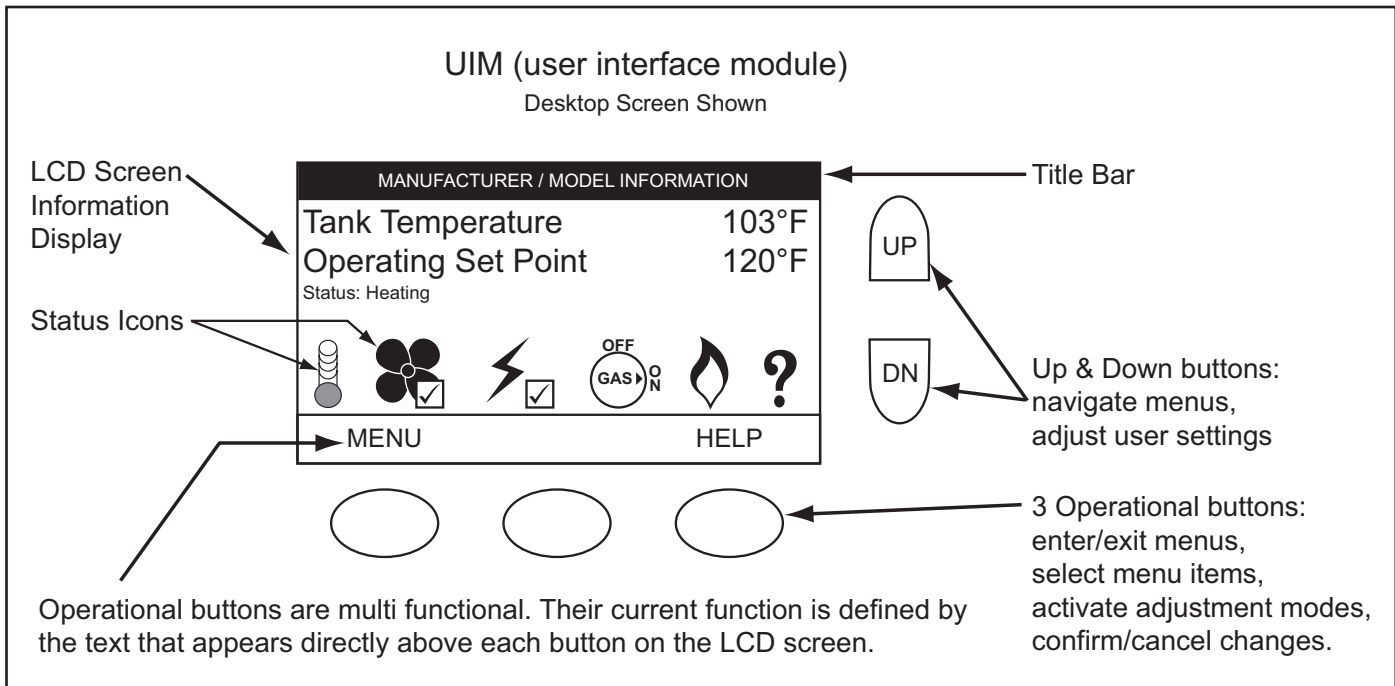

Figure 56
All operational information and user settings are displayed and accessed from the UIM. The UIM houses the control system's LCD (liquid crystal display) and five snap acting (momentary) user input buttons; an up, down and three (3) multi functional operational buttons below the LCD, see Figure 56.
The Status Icons are displayed on the Desktop screen and convey operational and diagnostic information. The icons are described in the table below. See Figure 56 on page 44 and the Sequence Of Operation on page 58.
The current operational state of the water heater is displayed on the Desktop screen as the "Status." The common operational states are described in the table below. See Figure 56 on page 44 and the Sequence Of Operation on page 58.